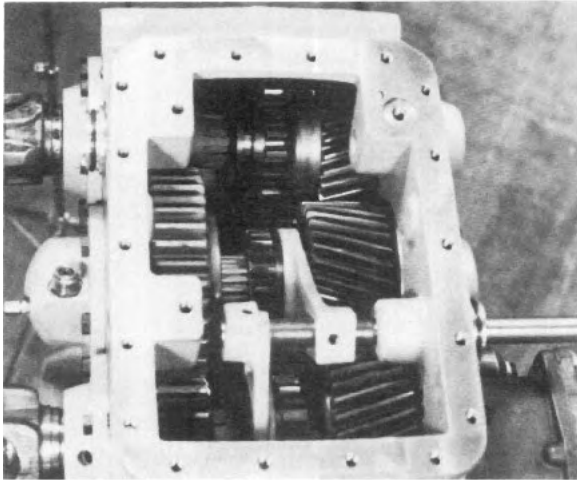

Fig. 35
5. Install the 7 $\frac{5}{8}$ " overall length underdrive shift fork (Item 35); it should fit into the groove of the underdrive shift clutch (on the intermediate shaft) the long hub section should be facing the rear of the case. Insert the two-groove shift shaft (Item 36) into the adaptor tube (Item 15) at the rear of the case housing (see 1 of this section). Slide end of shift shaft into underdrive shift fork (Item 35). Put 5 $\frac{7}{8}$ " overall length shift fork (direct drive shift fork— Item 34) long hub toward front of the case, into the case with the forks in the groove in the direct drive clutch on the input shaft. Push shift shaft through this fork (See Fig. 35) and into the hole in the front wall of the case housing. Push on the end of the piston and compress the spring until the piston butts against the nylon stop ring and the adaptor. This will allow the set screw in the underdrive shift fork (Item 35) to be tightened into the proper groove on the shift shaft. Rotate both shift forks in either direction but *in the same* direction and, with the second fork in the proper place longitudinally, tighten set screws to specified torque and install the lockwire.